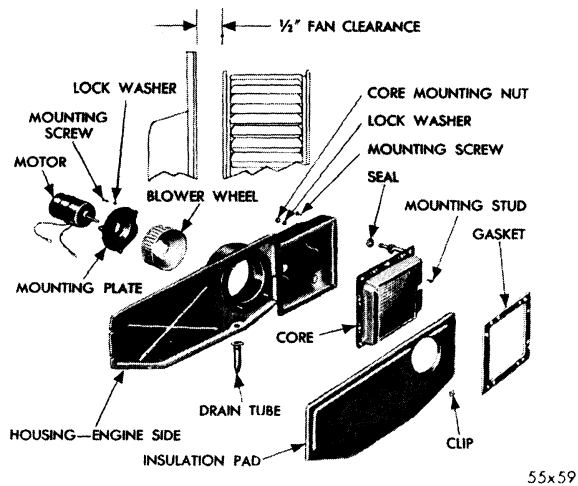

Fig. 18—Blower and Motor Assembly, Heater Core and Insulation to Heater Housing (Engine Side)
14. REMOVING BLOWER MOTOR (Fig. 18)